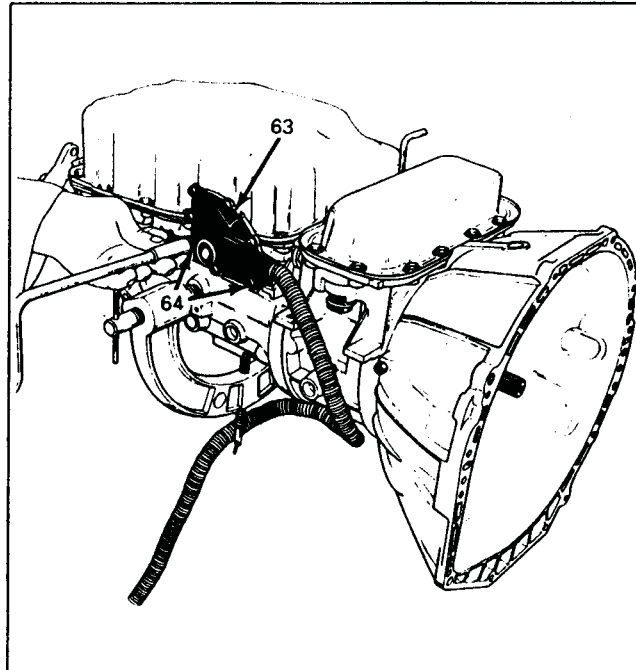

Figure 2
4. Remove two 10mm bolts that retains the mode switch, and remove the mode switch (See Figure 2).